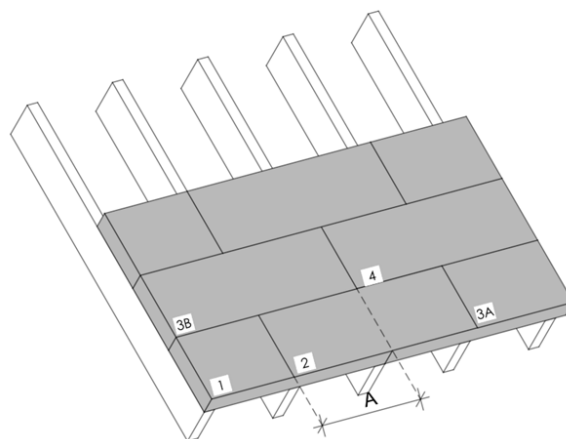

Figure 2. Offset between the rows of STEICO installed on the roof
3. Lay in an offset for the second row. For STEICO Universal 22mm thick, an offset ('A' in fig. 2 below) of 600mm is recommended, for all other thicknesses, an offset of at least 250mm is recommended. Ensure boards are well fitted together.